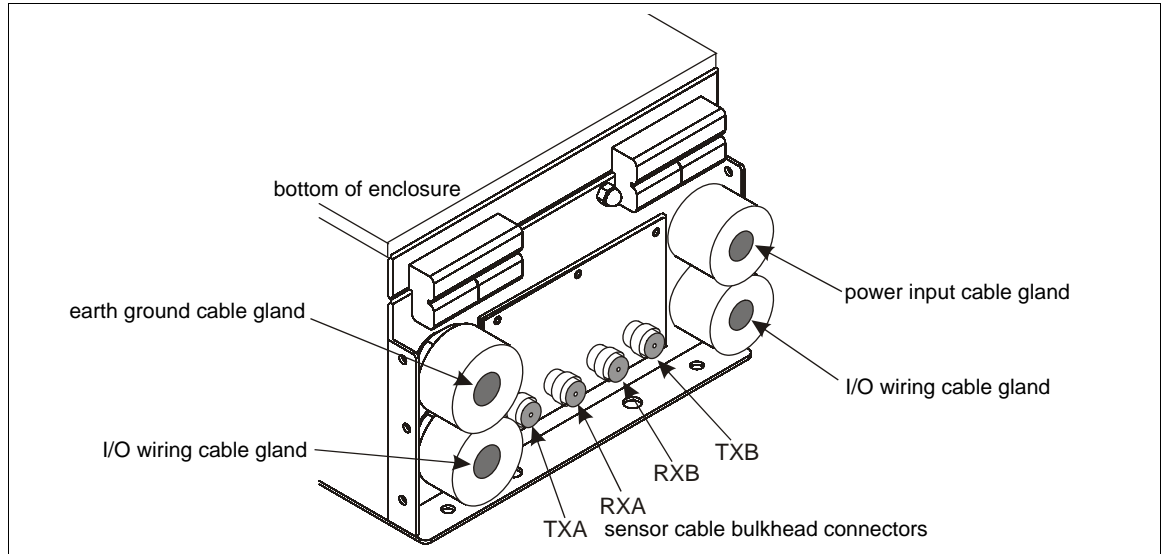

Figure 152: Sensor cable connections
4. Remove the cable glands and route the I/O wiring through the appropriate cable gland, into the OmniTrax enclosure (Figure 152:).